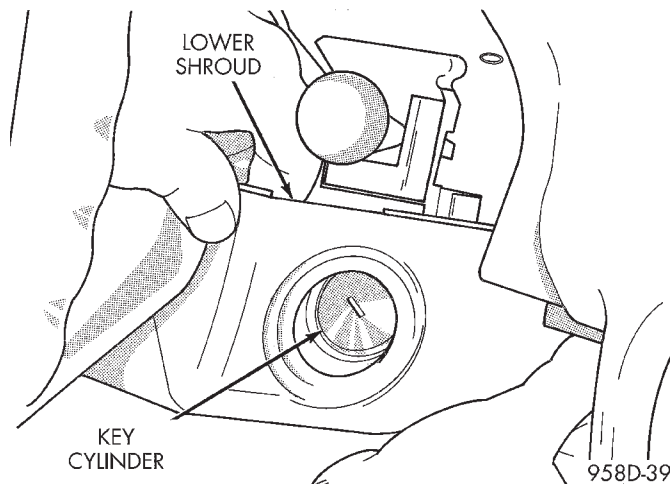

Fig. 15 Remove Lower Shroud From Ignition Cylinder
(13) Pull lower shroud to clear ignition cylinder (Fig. 15).